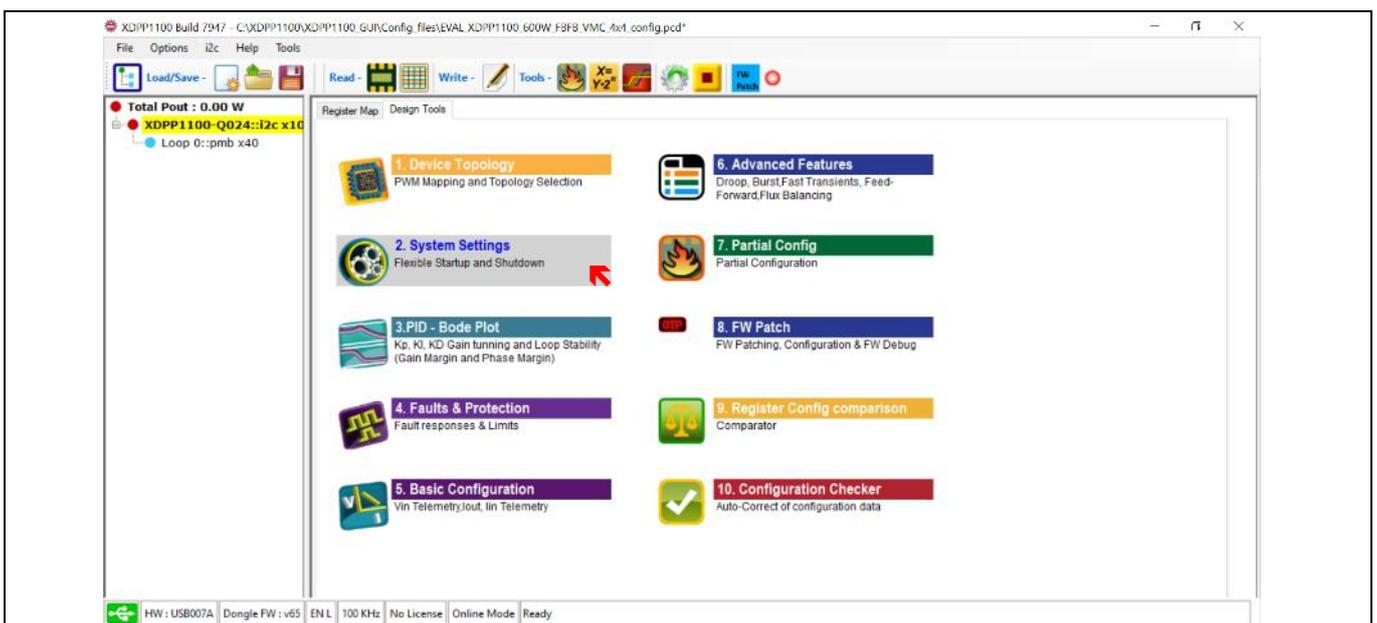

Figure 21 System settings (flexible startup and shutdown)
- Click the **XDPP1100-Q024::i2c x10** (highlighted in yellow in **Figure 21**).